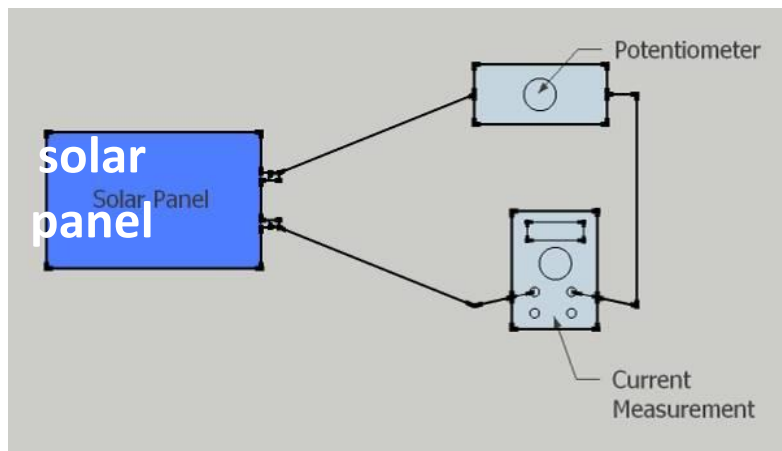

Figure 2. The electrical circuit configuration to measure current.
7. Reconfigure the circuit so that it looks like the diagram provided in **Figure 2**.